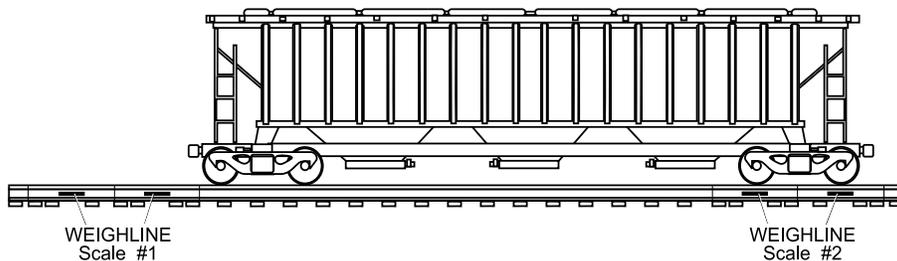

Figure 4
5. Move the car so that second truck is on the second scale and wheels are positioned in the center of the Weighline sections. See Figure 4. Total car weight is displayed.